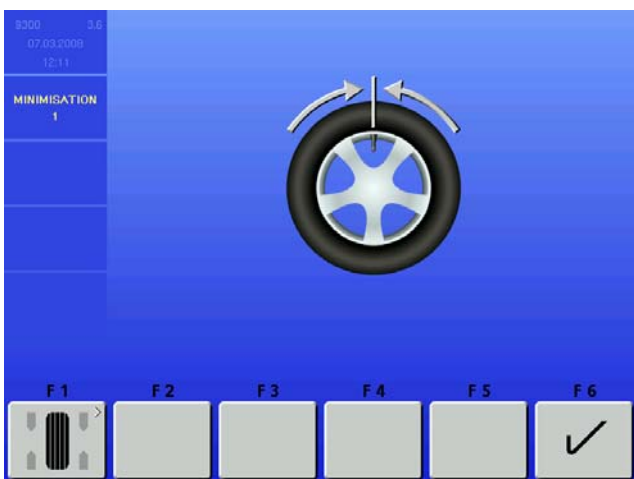

Figure 27
3. Rotate the assembly so the valve stem is located at top dead center. Press "F6", to continue. See Figure 27.